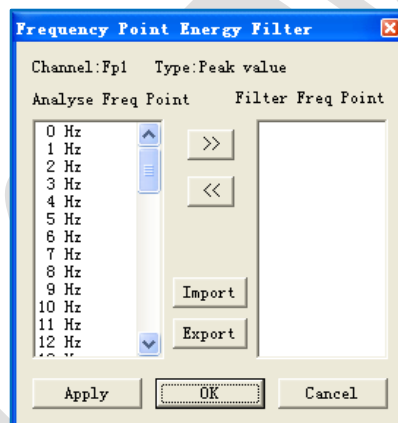

Fig 4-17 Frequency Point Energy Filter
- You can also apply different filters and scaling to every trend channel. Click on “Filter” at the right side of the trend channel, and the frequency point and energy filter dialog box will pop-up, as shown in Fig 4-17.